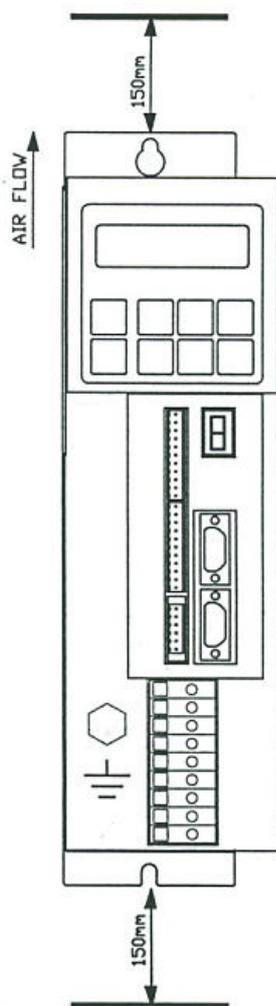

Fig. 3-1
- The convertor **MUST** always be installed in a vertical position. The distance equal to 150 mm, indicated above and below in Fig. 3-1, is the room that must be left free for air flow; this is valid both for size 223 and for size 224.